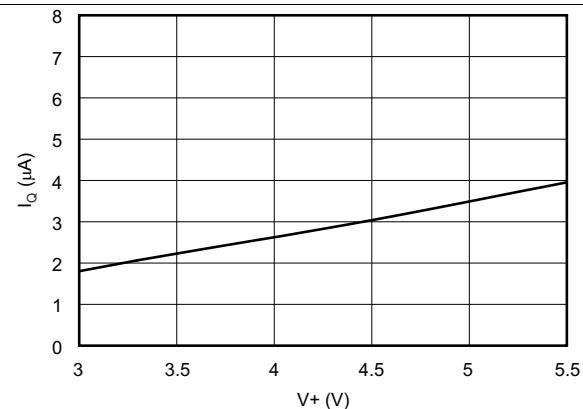

Figure 10. Shutdown Quiescent Current vs Supply Voltage
7.4.5 Shutdown Mode (SD)
The TMP401 shutdown mode (SD) allows the user to save maximum power by shutting down all device circuitry other than the serial interface, thus reducing current consumption to typically less than 3 μ A; see Figure 10 \(Shutdown Quiescent Current vs Supply Voltage\). Shutdown mode is enabled when the SD bit of the configuration register is high; the device shuts down when the current conversion is completed. When SD is low, the device maintains a continuous conversion state.